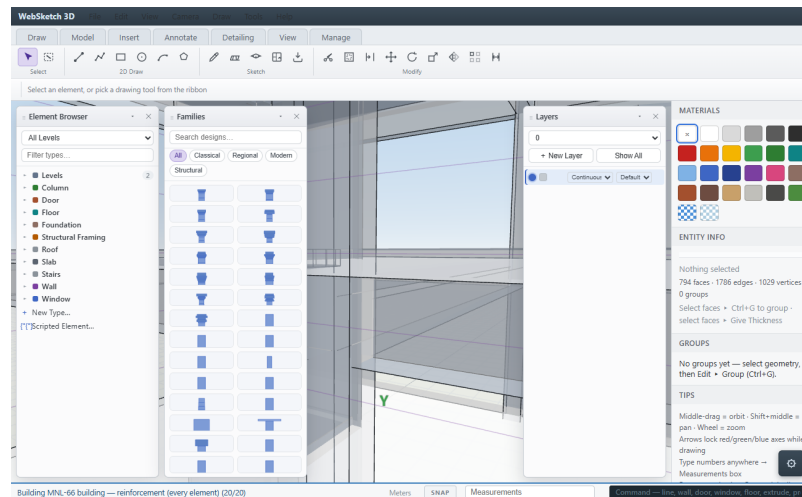

Figure 3-1 - Story splice above the slab: staggered laps + the two extra splice-zone ties.
- **Column - slab:** story column bars splice above the slab (Fig. 3-1); the slab is punched around the column.